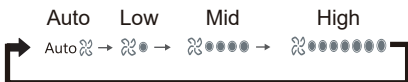

Figure 3.8
2) 3 fan speeds: Fan Speed will be adjusted in turn as shown in Figure 3.8.